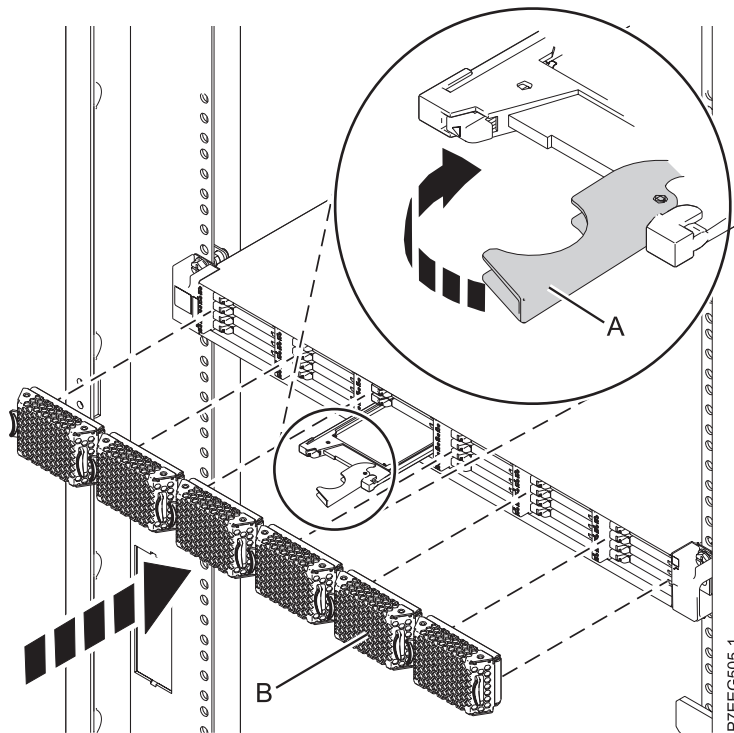

Figure 54. Replacing a solid-state drive in the 5888 PCIe storage enclosure.
3. Rotate the handle (A) to the locked position, as shown in Figure 54 on page 81.
4. Install the bezel (B).